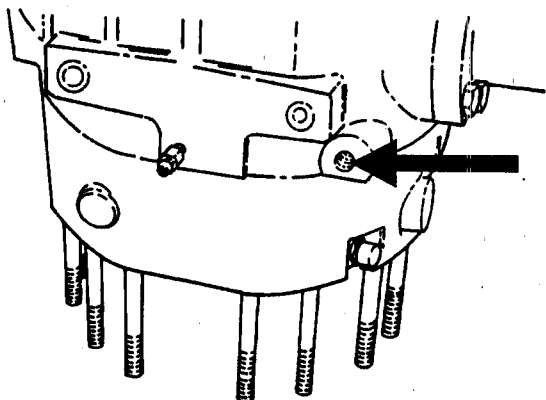

Figure 8.
17. Remove nut (3) and grub bolt (2) and slide out the double universal joint (45). Remove retainer rings (50 and 51). Pull out bushing (47) and remove ball bearing (49), seal (48) and o-ring (46).
18. Stand center assembly (Figure 8) on end, and apply 40-70 psi (270 - 483 kPa) to the brake line part to release brake pistons (16, Figure 4). Remove brake pistons (16). Note o-ring (17) and back-up ring (18).
WARNING: Perform this operation only with assembly in position shown in Figure 8. Treat compressed air with caution.